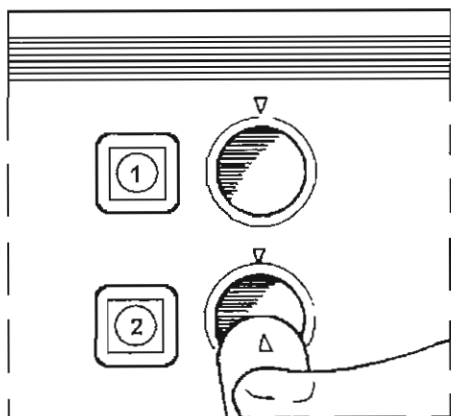

Figure 2-7. Handpiece connector alignment.
- Select either the 1 or 2 handpiece receptacle. Then, align the arrow on the handpiece connector with the arrow on the APS console. Refer to figure 2-7.